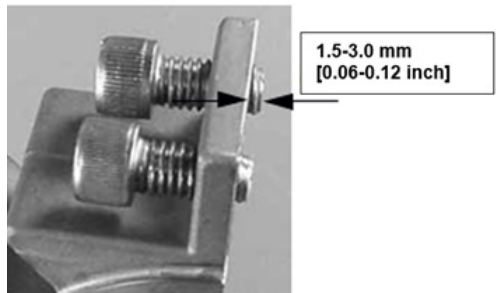

Figure 26
- 7.5 Lightly coat the gland cap screws with 206 seal lube and thread them through the retainer sleeves until they protrude 1.5 to 3.0 mm (0.06 to 0.12 inch) past the gland joint. See Figure 26.